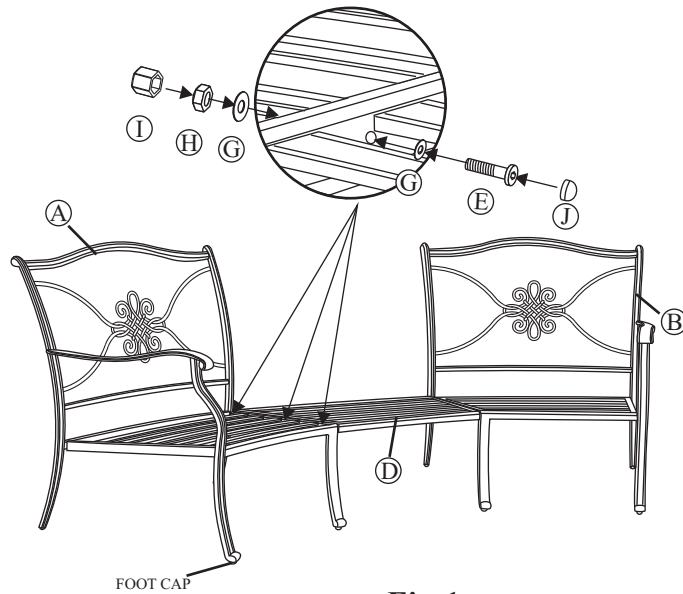

Fig.1
- 1 Attach the seat frame to the left chair frame by using three 1/4"x48 mm bolts and washers as shown in **Fig.1**. Guide bolts through holes in the seat frame and left chair frame, add a nut with washer to each bolt. **Hand tighten only**. Repeat for the right chair frame.